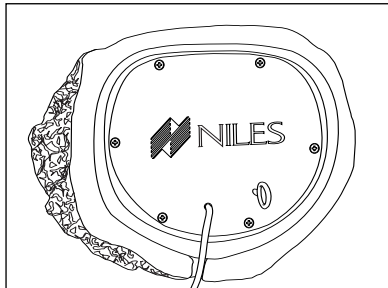

Figure 7 Bottom of Loudspeaker
1. With the loudspeaker in the proper location per the layout, turn the loudspeaker over so the bottom of the loudspeaker is facing you, as shown in **Figure 7**.